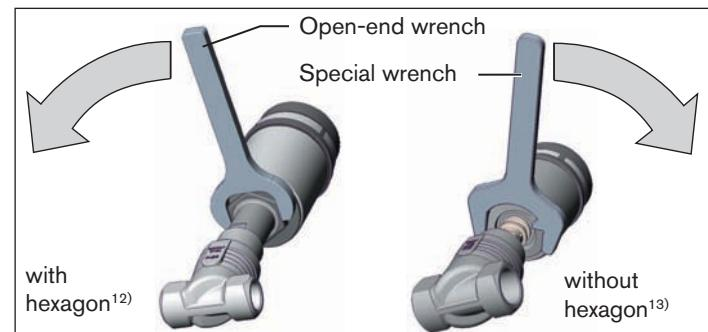

Fig. 16: Rotating with special key / open-end wrench
- Rotate the actuator module in the specified direction only (see "Fig. 16")!